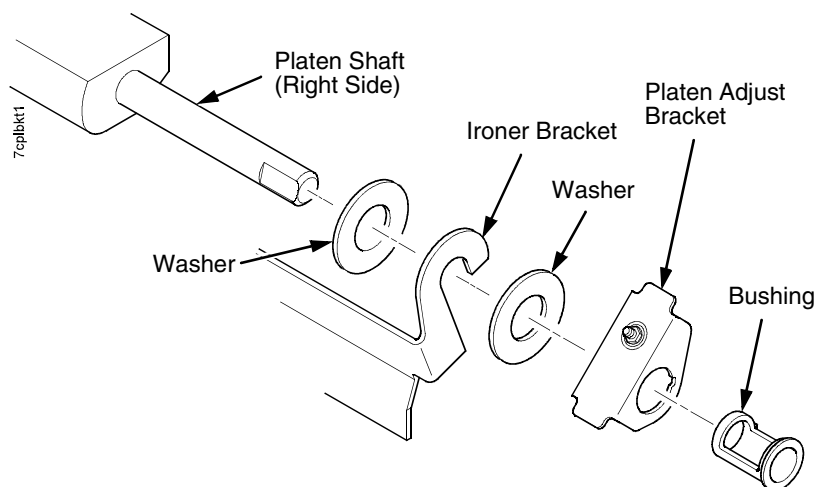

Figure 35. Installing the Platen Adjust Bracket
(See Figure 35 below.)
6. Install one platen adjust bracket and bushing onto the longer platen shaft, with the screw at the top of the bracket. (See Figure 35.)
11. Install the black metal washer onto the left side of the platen shaft. (See page 280, item 26.)
12. Apply bearing lubricant to the nylon bearings in the two spring links, slide the spring links onto the platen shafts, and connect the springs to the spring hooks in the side plates. (See page 280, items 16, 17, and 18.)
14. Install the paper ironer bracket. (See Figure 35.)
On the right side of the platen, a washer goes on both sides of the paper ironer bracket hook and the hook goes to the left of the right platen adjustment bracket. (See Figure 35.)